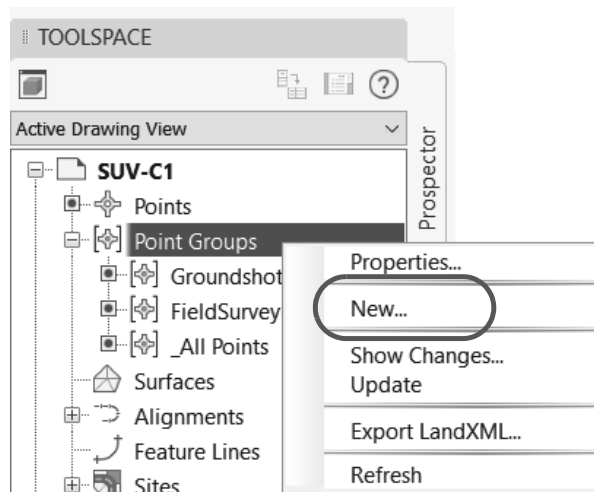

Figure 2–49
3. In the *TOOLSPACE>Prospector* tab, select **Point Groups**, right-click, and select **New...**, as shown in Figure 2–49.
4. In the *Point Group Properties* dialog box, in the *Information* tab, type **Boundary Pin Survey** in the *Name* field, type **Collected April 30, 2024** as a *Description*, set the *Point style* to **ASC-Iron Pin**, and set the *Point label style* to **ASC-Elevation and Description**, as shown in Figure 2–50.